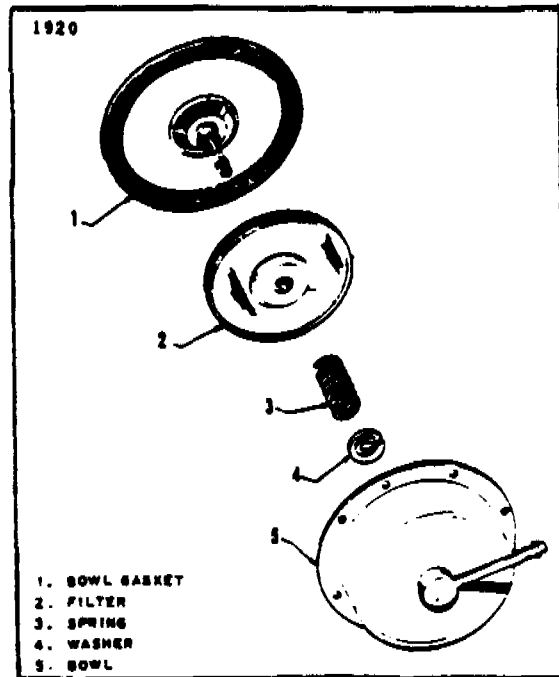

FIGURE 8-14. FUEL STRAINER
- d. Remove filter disc assembly from center stem by compressing filter retainer spring and removing filter retainer washer. (Refer to figure 8-14.)